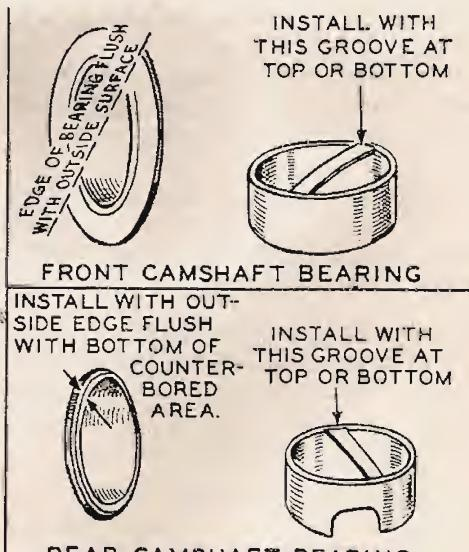

Fig. 24 Main and Camshaft Bearings
**MAIN BEARINGS.** - The crankshaft main bearings are of the sleeve type, flanged to take the crankshaft end thrust. Main bearings are available in standard, 0.002 inch and 0.020 inch undersizes, and do not require finishing to size after installation. The oil holes in the bearing must align with the oil passage openings in the crankcase or bearing plate, and a pin fits a slot in the bearing flange, Fig. 24. Use care to start and press the bearing in straight, to prevent any distortion.